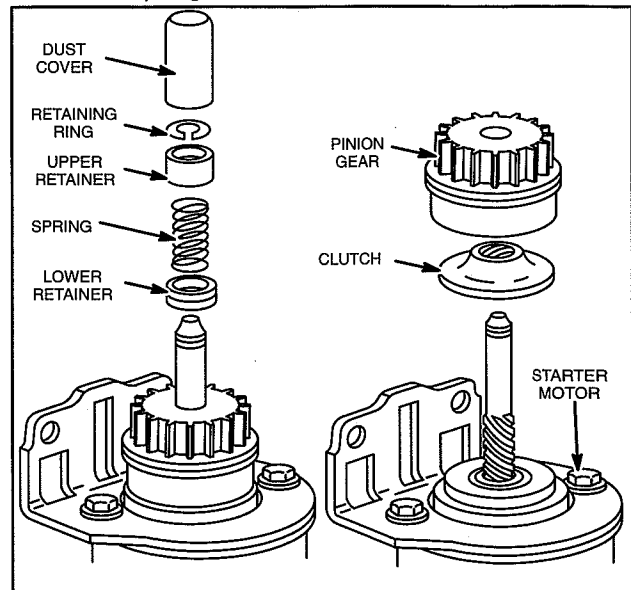

Fig. 16 – Steel Pinion Starter Drive
4. Remove upper spring retainer, spring, lower spring retainer, pinion gear and clutch, Fig. 16.